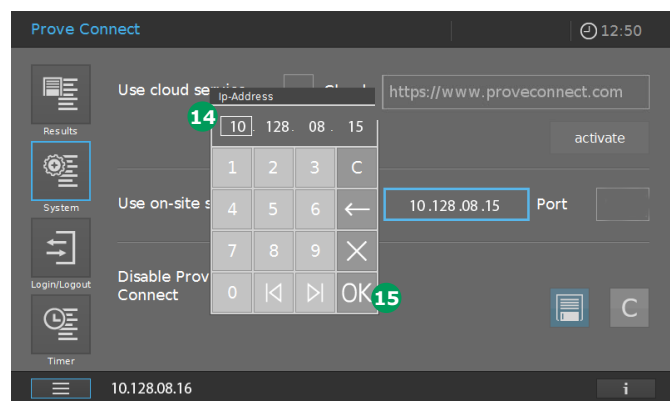

Figure 41 - Screen of Spectroquant® Prove (Figure 37) with entered IP address of the PC on which Prove Connect runs
10. Click in the field: Port (text box with the blue border). The entry field appears 14 (Figure 41).
12. Confirm the entered Port with "OK" 15 (Figure 41).